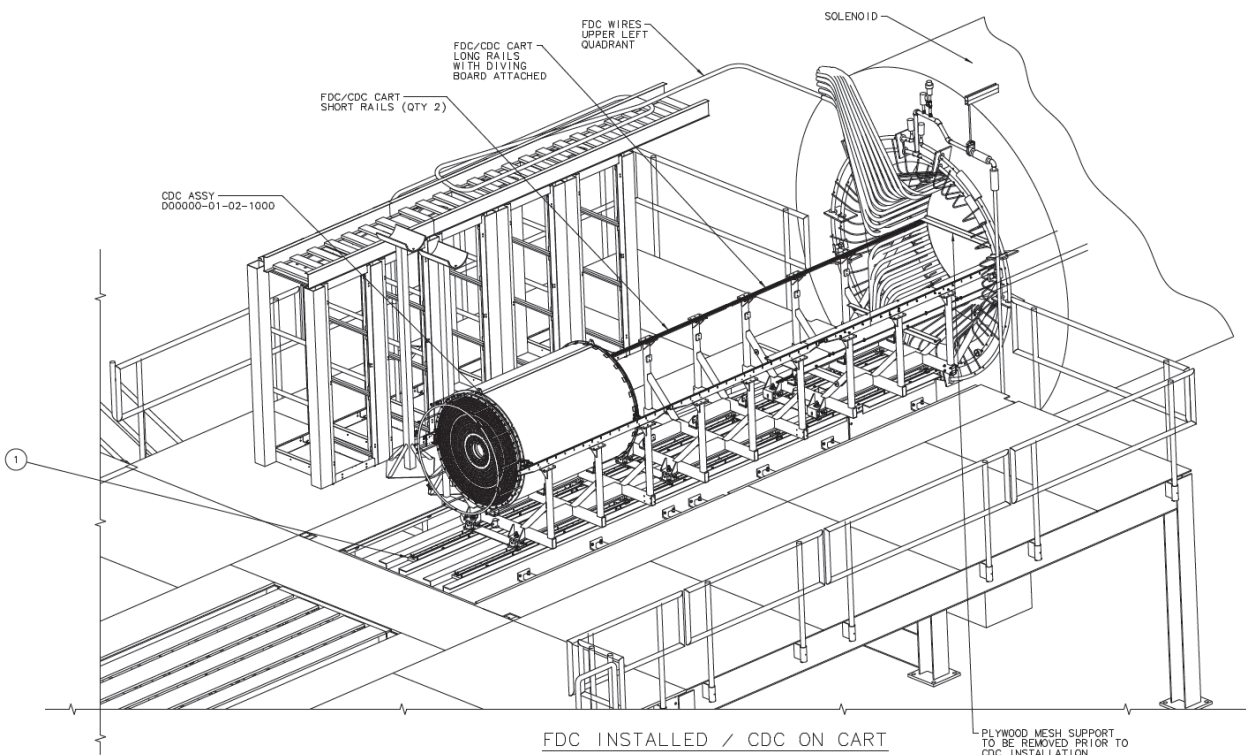

Fig 1
1. Install the FDC long rail cart as shown on fig. 1 and described in D00000-00-00-P002.
2. Crane the CDC with cart onto the upstream platform to position shown on fig.1